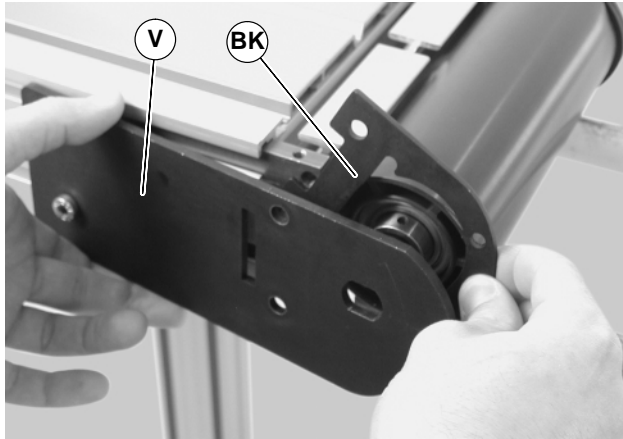

Figure 54
- Pull back the outer headplate (V of Figure 54) and remove the inner spacer (BK).